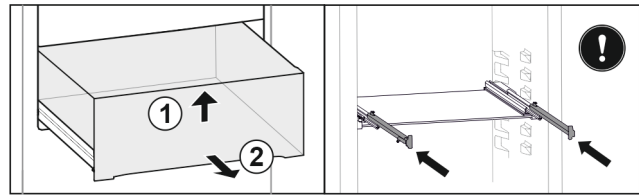

Fig. 22
- ▶ Lift up drawer at the front. Fig. 22 (1)
- ▶ Remove drawer to the front. Fig. 22 (2)